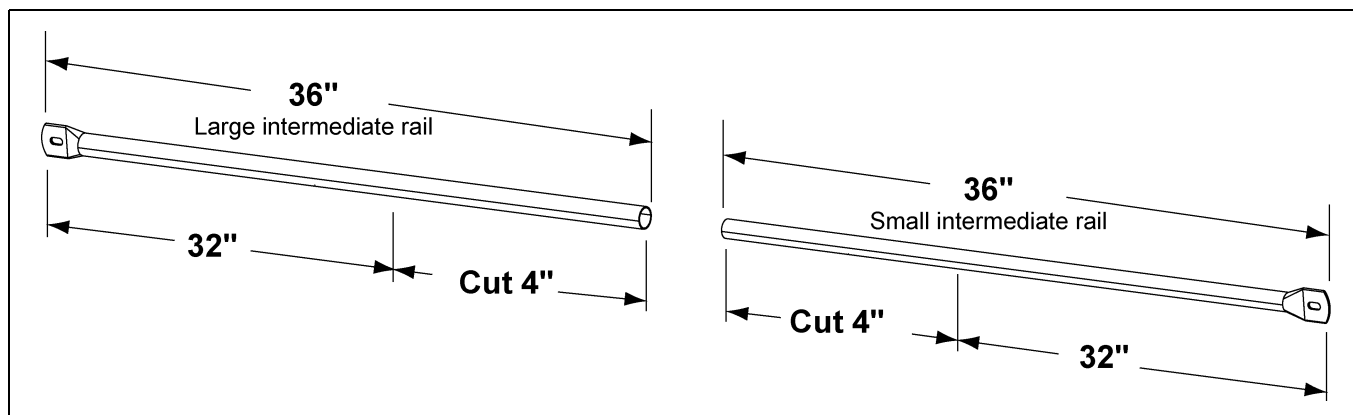

Figure 7T 32" Telescoping Handrail
3. Trim two (2) large and two (2) small rails by 4" each so remaining length of each rail, both small and large, is 32". (*See Figure 7T.*)